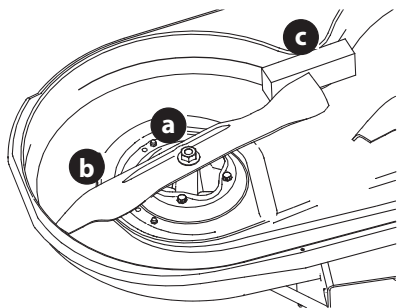

Figure 42
2. Loosen the hex nut (a) securing the blade (b). A block of wood (c) may be placed between the deck housing and the cutting edge of the blade (b) to help in breaking loose the hex nut (a) securing the blade (Figure 42).